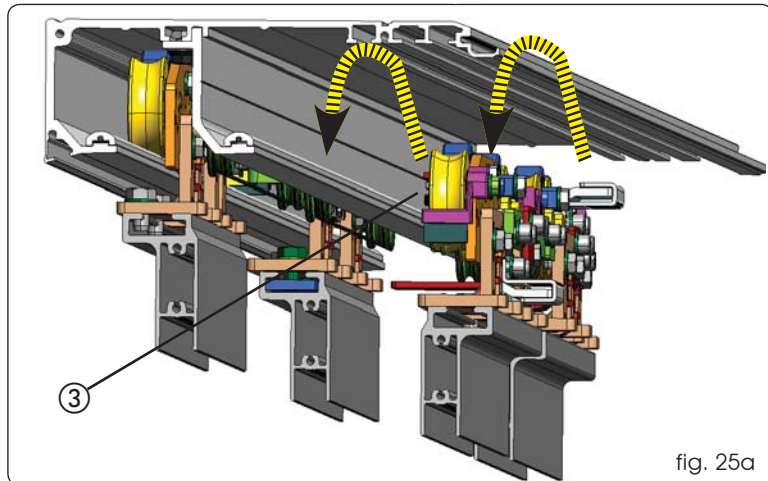

fig. 25a
Fit the carriage/leaf assembled unit on the profile fig.25a-b Ref. ③④ .